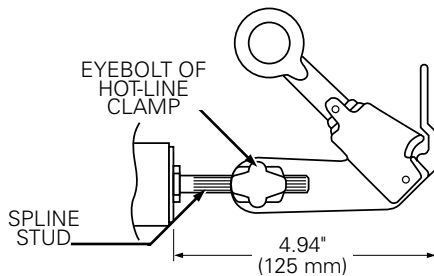

Figure 14. Hot-line clamp.
3. Assemble carriage bolt, external-tooth lock washer, mounting stud, split lock washer and hex nut on the spade adapter as shown in Figure 14.
2. Place the eyebolt terminal of the hot-line clamp over the spline stud, align and torque (as required) the eyebolt nut of the hot-line clamp as shown in Figure 14.